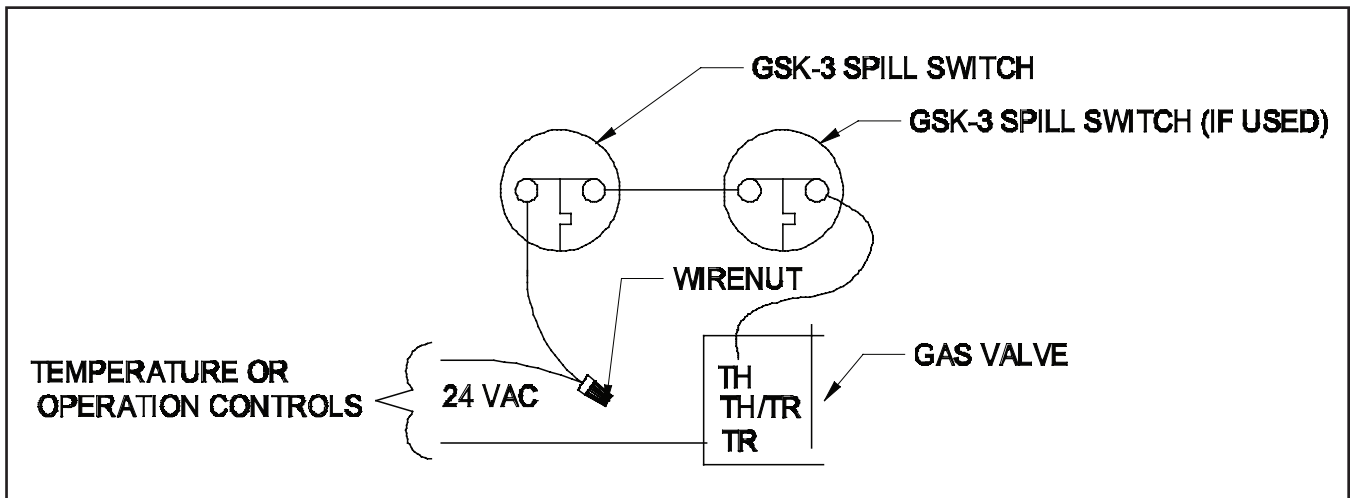

Figure 9
2. Wire the spill switch or switches into series with this circuit by wiring from the thermostat or temperature control to the spill switch or switches then to the gas valve or ignition module. (See Figure 9 & 10)